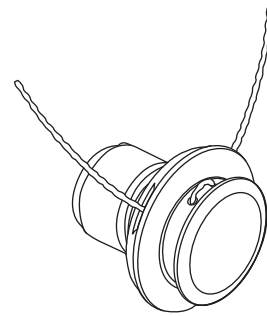

Fig. 25
3. Pull the ends of the line until the line bend is centered between the two insertion holes and firmly against the side of the cutting head (Fig. 25).